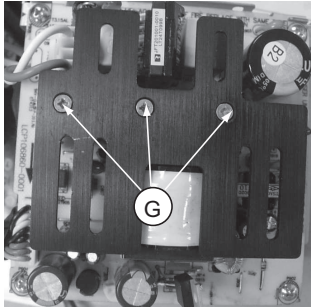

Figure 7
- 1) Loosen 3 screws "G" as shown in figure 7